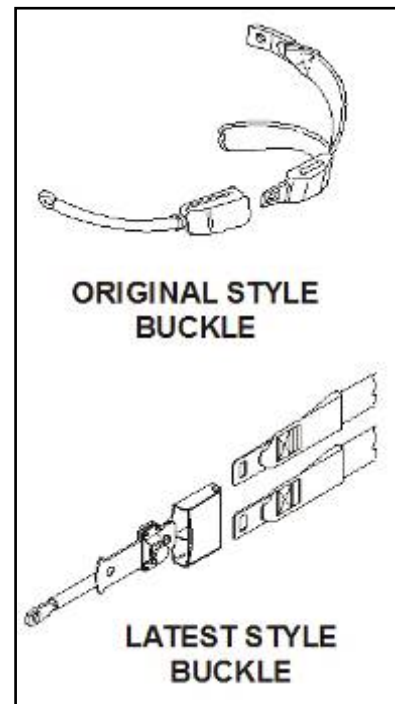

Figure 2a.
5. Visually inspect vehicle seat belt buckle assemblies to determine if latest occupant restraint system has been installed. Refer to figure 2a. Do not continue this procedure if the latest occupant restraint system is not installed.